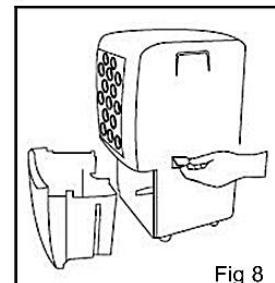

Fig 8
- Lift up the Drain Hose Outlet cover located on the right side of the unit (Fig.8)